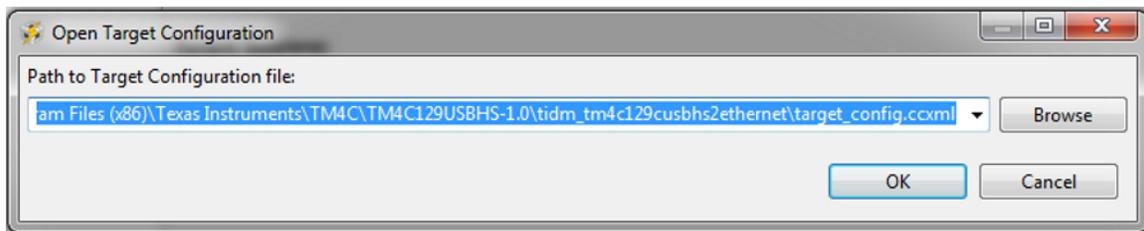

Figure 16. Loading Uniflash Configuration
3. Click on *File* then *Open Configuration* in the drop down menu. In the pop-up navigate to the target configuration file *target_config.ccxml* (see Figure 16), which is provided as part of the project collateral installation. Press *OK*.